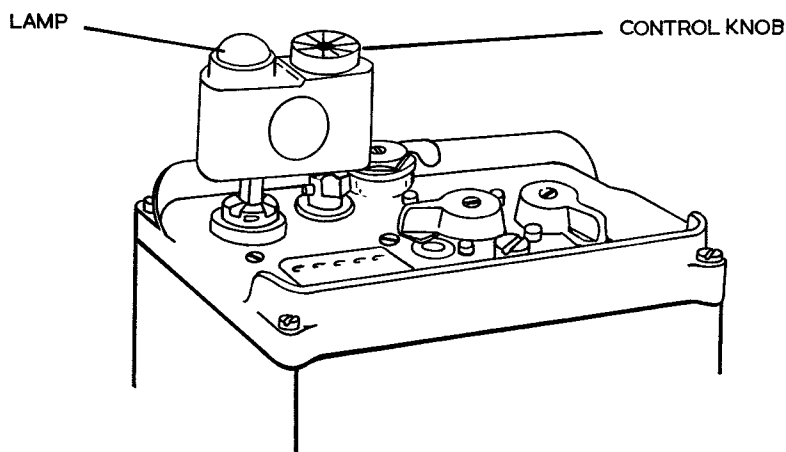

FIG. 4. USE OF CONDITION INDICATOR
- (1) Check that a battery is in position.
- (2) Plug a handset or headset into the bottom socket marked OPERATOR and secure it with the retaining arm.
- (3) Set the SYSTEM switch to NORMAL and the CHANNEL switch to 1.
- (4) Listen into the earphone. Noise should be heard if the battery is not too low. If noise cannot be heard change the battery or, if a battery tester is available, have the battery tested.
- (5) Hold the prods of the condition indicator against the ROD AERIAL and REMOTE AERIAL sockets as shown in Fig. 4. The domed prod should be applied to the ROD AERIAL socket and the shorter of the remaining prods to the REMOTE AERIAL socket. (The third prod is used with Canadian set CPRC-26). Press the pressel switch. Turn the control knob on the condition indicator, watching the bulb until it burns with maximum brilliance. If the bulb burns brightly, transmitter and battery are normal. Blow into the microphone. If the side tone is operating correctly, the blowing noise will be clearly reproduced in the earphones. Release the pressel switch.